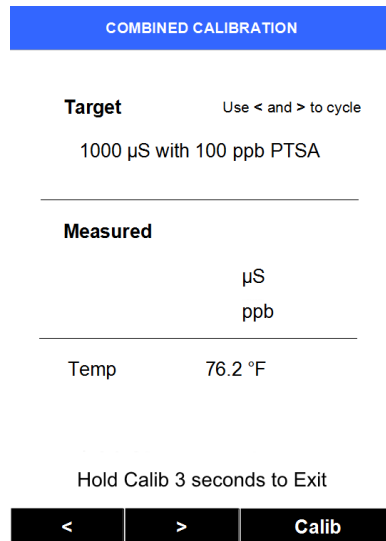

Figure 21
- 5) The default conductivity calibration screen appears (Figure 21), the Combined Calibration. This will calibrate both Conductivity (at 1000 μ S) and PTSA (at 100 ppb) when using the appropriate Combined Standard. However, if desired the conductivity calibration that is to be performed can be easily changed to several
- 9) Or, press **Cancel (< key)** to return to the conductivity calibration type selection screen (as in Figure 21), where if desired the calibration can be changed with use of "<" or ">". (In this case ensure the correct standard is present for the conductivity calibration desired. See the other Conductivity Calibration Procedures.)